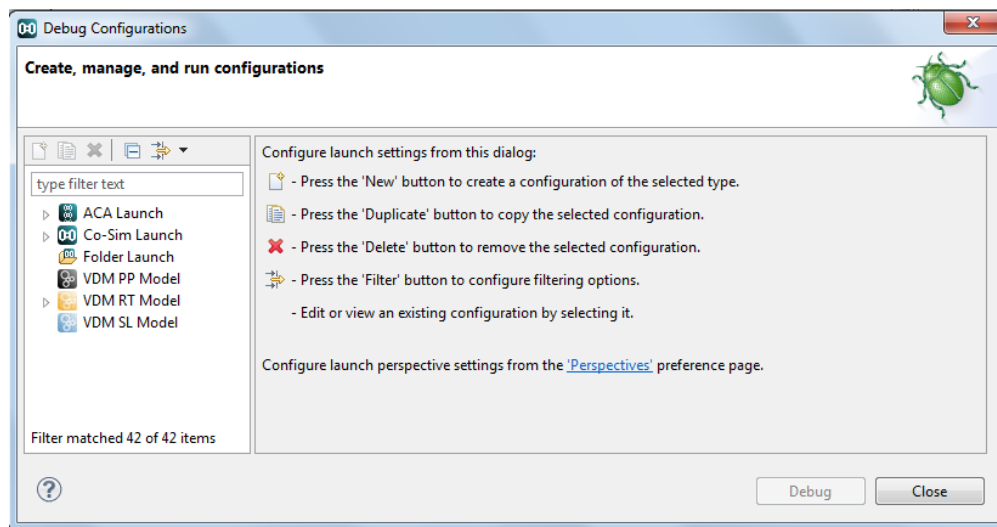

Figure 6.1: Select a new debug configuration.
- A drop-down menu will appear, in which the option *Debug configuration* has to be selected, and as a consequence a new window will appear as shown in Figure 6.1.